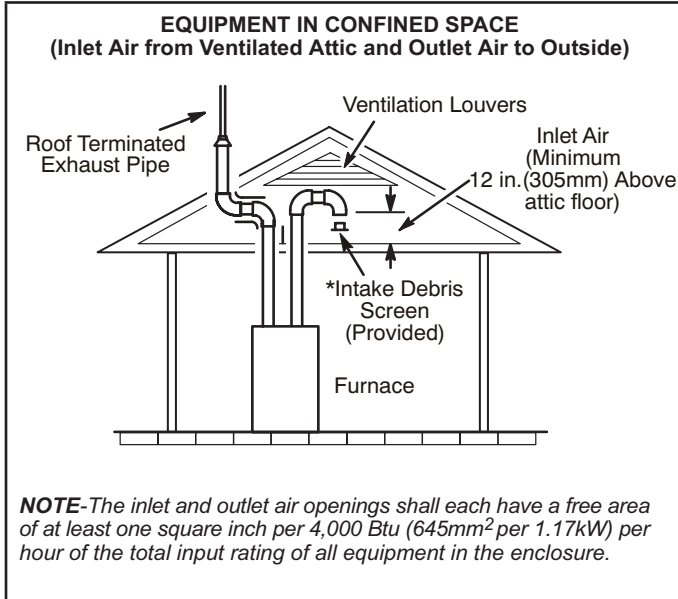
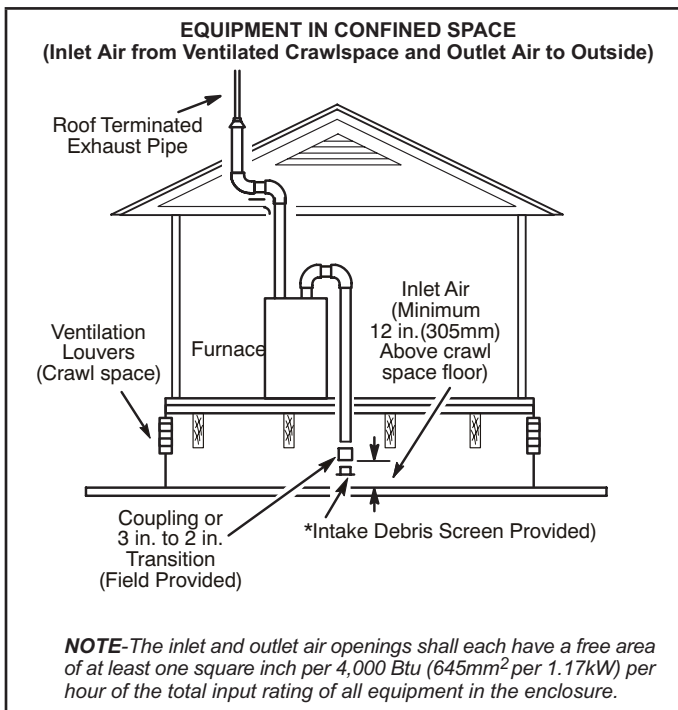

FIGURE 24
FIGURE 25
- 2 - If intake air is drawn from a ventilated attic (FIGURE 24) or ventilated crawlspace (FIGURE 25) the exhaust vent length must not exceed those listed in TABLE 15. If 3" diameter pipe is used, reduce to 2" diameter pipe at the termination point to accommodate the debris screen.